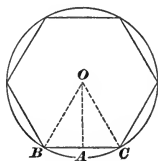

FIG. 36.
EXAMPLE.—In Fig. 36 the side  $BC$  of the regular hexagon is 12 inches and the distance  $AO$  is 10.4 inches; required the area of the polygon.
**82.** To find the area of a sector (a **sector** of a circle is the area included between two radii and the circumference, as, for example, the area  $BAC O$ , Fig. 36):